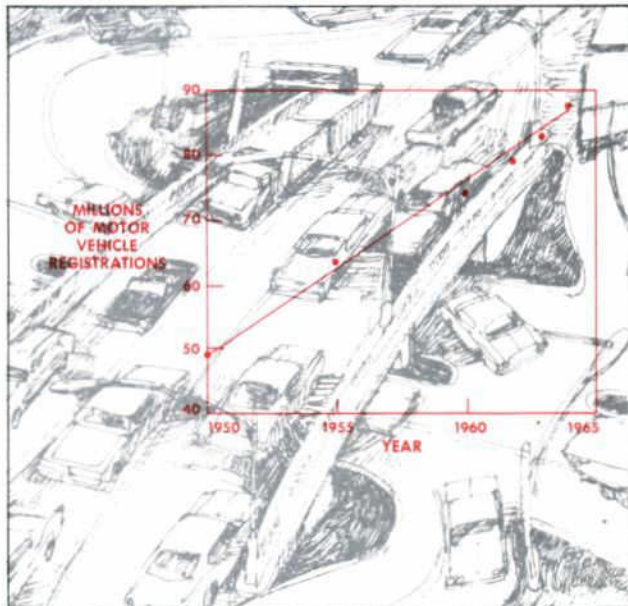

Figure 2—Increase In Traffic Density—U.S.A.
- Traffic density also increased. Figure 2 illustrates the total motor vehicle registrations from 1950 through 1965. Increased traffic adds to heat stresses because of low-speed "Stop-and-Go" driving, and long periods of idling.